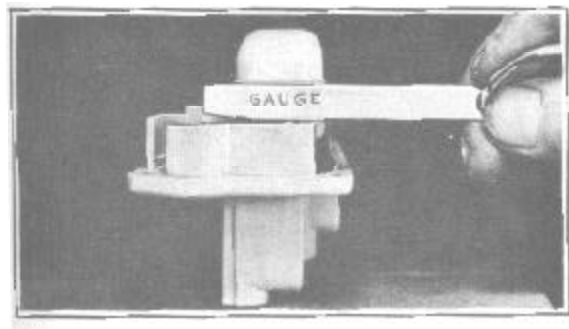

FIGURE 31
5. Install needle, float and lever assembly, float lever pin. Check float for dents and wear on lip, and float pin for wear. Check bowl cover for wear in counter-shaft hole. Set float level to  $\frac{1}{2}$ " by bending lip, not float, Figure 31. Measure distance